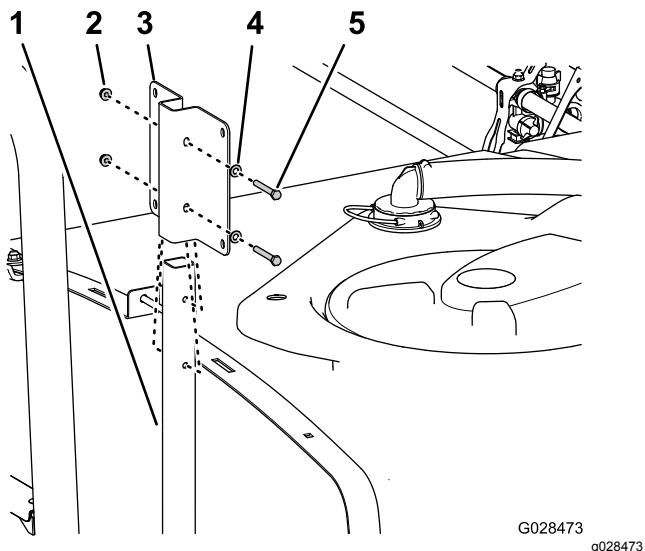

Figure 36
1. Align the holes in the mount for the fresh-water tank with the holes in the support tube (Figure 36).
2. Secure the mount to the tube (Figure 36) with 2 flanged-head bolts (5/16 x 2-1/4 inch), 2 washers (5/16 inch), and 2 flanged locknuts (5/16 inch).